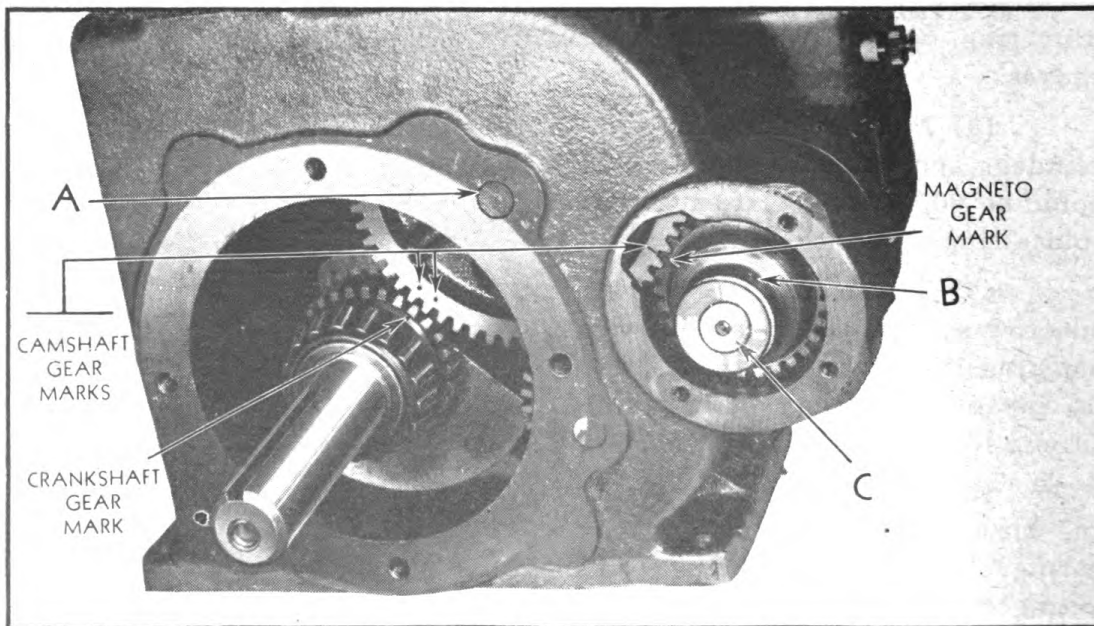

Figure 136—Proper Locations of Witness Marks when Assembling Gears
(b) To remove camshaft and gear, drive out Welsch plug at opposite end by applying a drift punch on exposed end of camshaft pin (at "A" Figure 136).
(6) **IMPORTANT:** When placing crankshaft, bearings, and gear assembly back in crankcase, be sure that mark on crankshaft gear is meshed between two marks on camshaft gear, and that single mark on camshaft gear lines up with mark on magneto gear (See Figure 136). **This is necessary to keep engine in time.**
Before replacing magneto drive gear cap, be sure that bronze spacer is over end of shaft ("C" Figure 136).